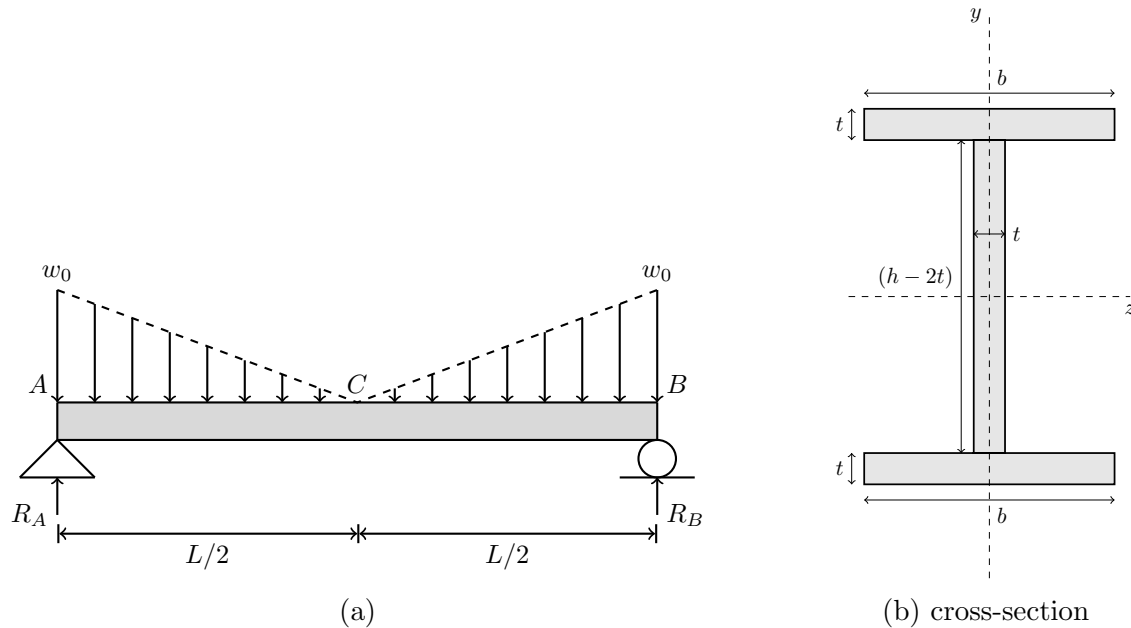

Figure 3
- (b) Consider a simply supported I-beam of length L subjected to an applied load as shown in Fig. 3.
- (ii) Find the slope at point A and deflection at point C of the I-beam shown in Fig. 3.